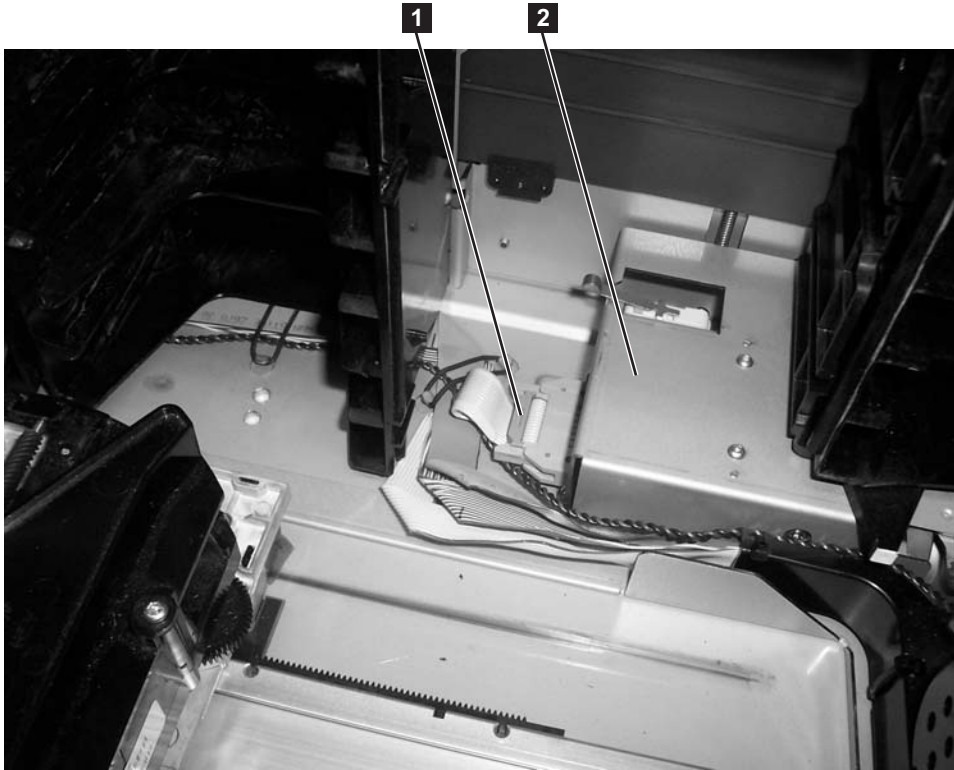

Figure 7-10. I/O Station lock assembly connector (top cover removed)
2. Visually check, and reseat if necessary, the connector on the back of the I/O Station lock assembly. See **1** in Figure 7-10 on page 7-23.